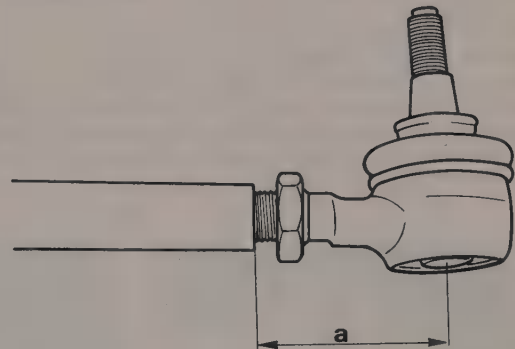

Fig. 10.19 Track rod end initial setting dimension (Sec 21)
- 5 Screw the new track rod end in the track rod the number of turns noted in paragraph 4. If both track rod ends are being renewed, set them to the initial dimension shown in Fig. 10.19.